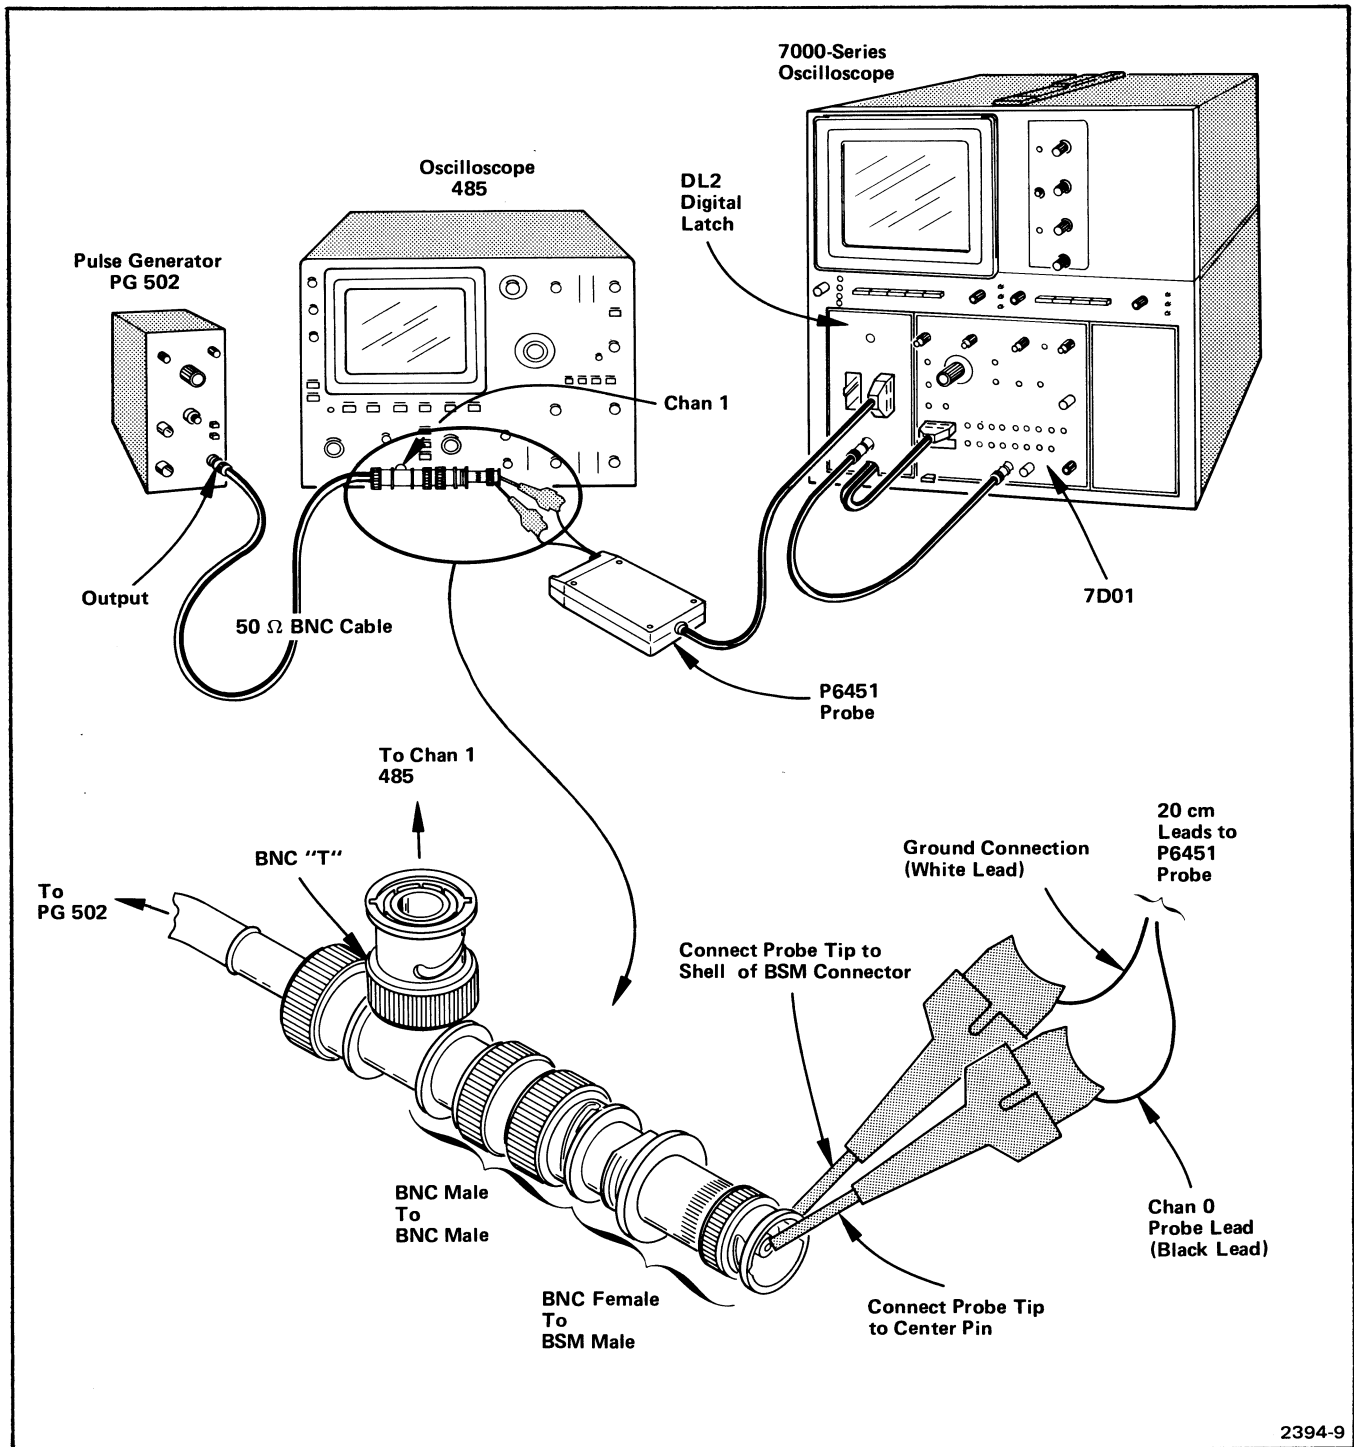

Fig. 3-4. DL2 Digital Latch Operational Test Setup.
a. Install the DL2 and 7D01 in the plug-in compartments of the 7000-Series test oscilloscope system mainframe. Refer to Fig. 3-4.
e. Connect remaining test instruments in accordance with Fig. 3-4.
a. Connect P6451 probe ground lead (white) to the shell of the BSM male connector. (See Fig. 3-4. This ground connection should remain connected throughout the test procedure.)
b. Connect P6451 Channel 0 probe lead (black) to the probe tip that is connected to the center pin of the BSM male connector. (See Fig. 3-4.)